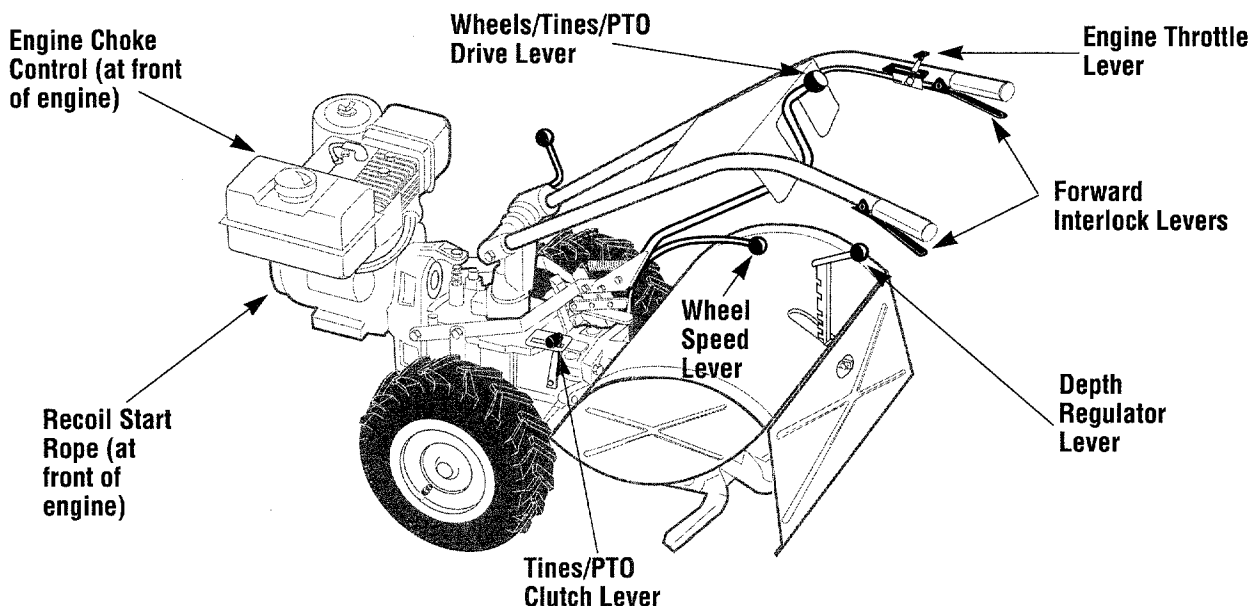

Figure 4-4: Tiller and engine controls.
1. With engine off, place the Wheels/Tines/PTO Drive Lever in NEUTRAL position (see Figure 4-4). If in FORWARD position, tap or lift the lever up and then release it to obtain NEUTRAL.
2. Lower Depth Regulator Lever (refer to Figure 4-4) until tines are off the ground.
3. Move Wheel Speed Lever (Figure 4-4) to either SLOW or FAST position. *Be sure to roll the wheels while shifting the lever until the wheels are engaged.*
5. Put the Tines/PTO Clutch Lever in DISENGAGE position (see Figure 4-4). [Use the ENGAGE position if you want the tines to revolve or you wish to apply power to a PTO-driven stationary attachment.]
5. Warm up the transmission gear oil as follows: with engine running, move Wheel Speed Lever (see Figure 4-4) to FREE WHEEL (then block wheels